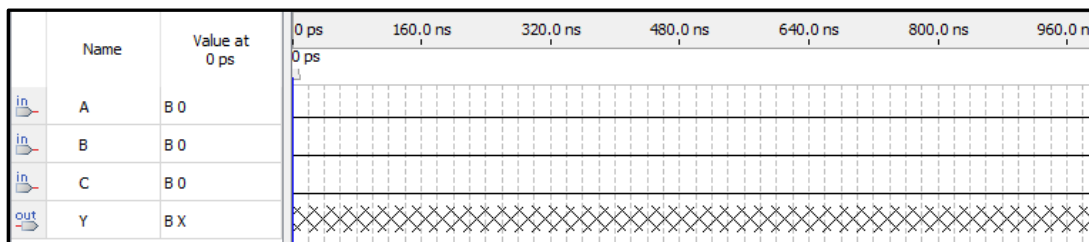

Figure 7: Vwf with inputs and outputs
2. You should now see the inputs and outputs in the vector waveform file window. Save this file. The window should look like Figure 7.